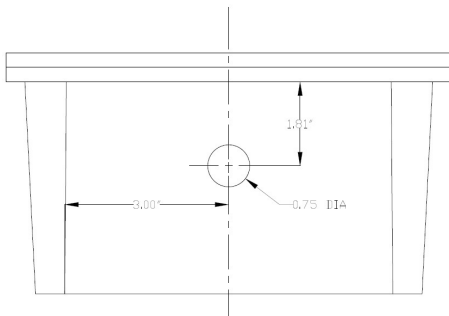

Figure 2. Top of enclosure - antenna penetration hole
Due to the construction of the enclosure, it is important to drill the antenna penetration hole as specified in Figure 2.
- b. Locate the exact location on the top of the enclosure for the antenna penetration hole as shown in Figure 2, and drill the correct size hole.